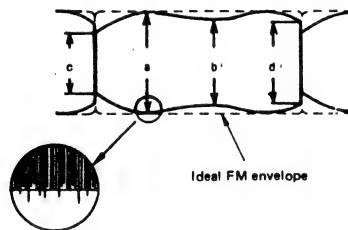

Fig. 2-54 FM waveform (max. output)
5) When the maximum video FM waveform, confirm the audio FM waveform (Fig. 2-54) obtained that: